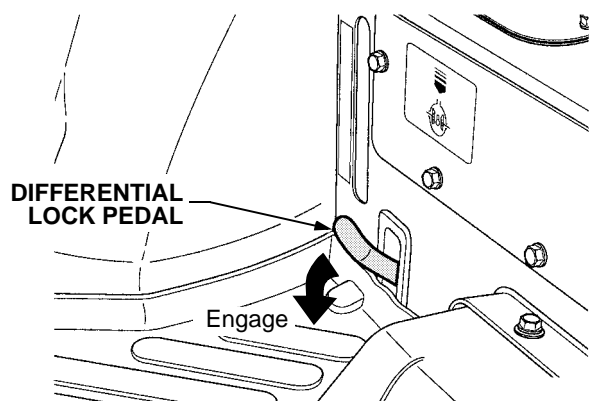

Figure 29
- Using your heel, fully depress and hold the differential lock pedal to engage the transmission differential lock. Release the pedal to disengage the differential lock. See Figure 29.